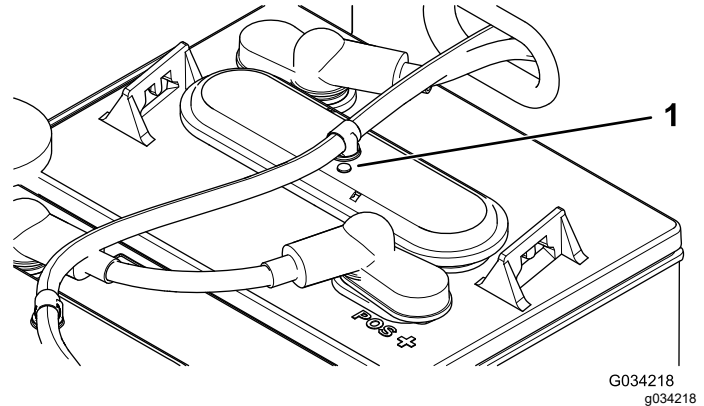

Figure 36
3. Check the eyelets on each of the batteries to see if they are either black or white (Figure 36).